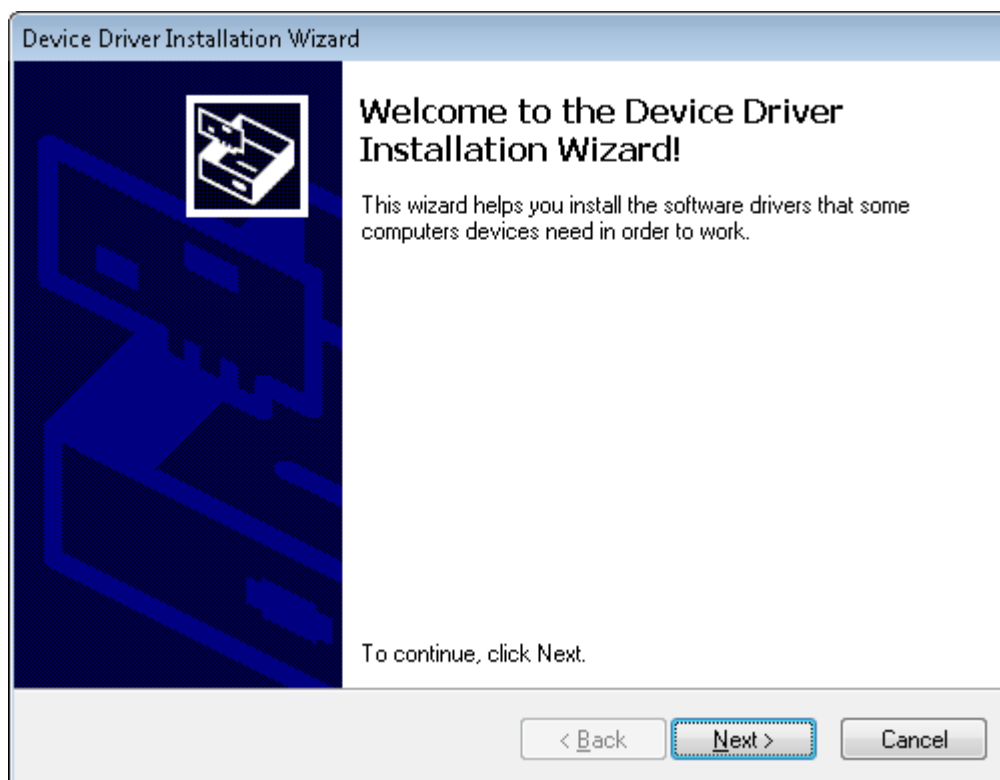

Figure 15. Driver Installation Wizard
15. A screen as shown in Figure 15 appears, click **Next** to proceed.